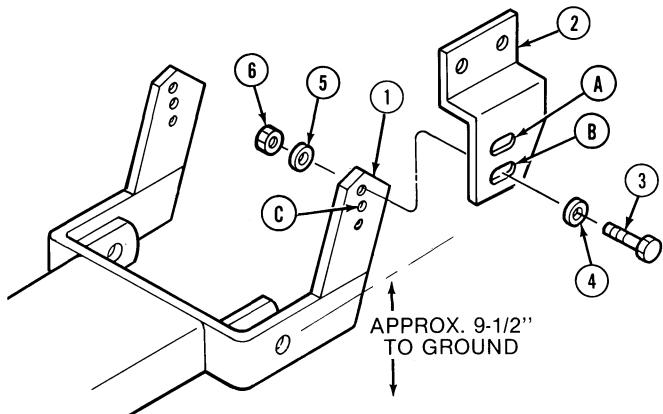

Figure 11
3. Attach the rear frame, (1), to the front mounting brackets, (2), using two 5/8" NF x 2" hex hd. bolts, (3), spacers, (4), lockwashers, (5), and nuts, (6), as shown in Figure 11. Do not tighten the bolts at this time.